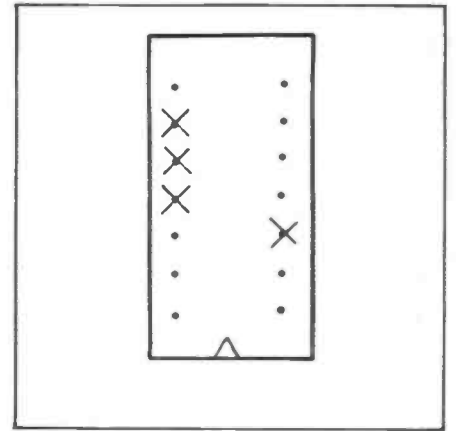

Figure 9: Modifications to LED Sockets, viewed from underside.
3) Prepare the eight 14 pin IC sockets by clipping off the pins close to the underside of each socket as shown in Figure 9. Insert and solder each socket into place taking great care not to short the lower pads to the tracks running between them.